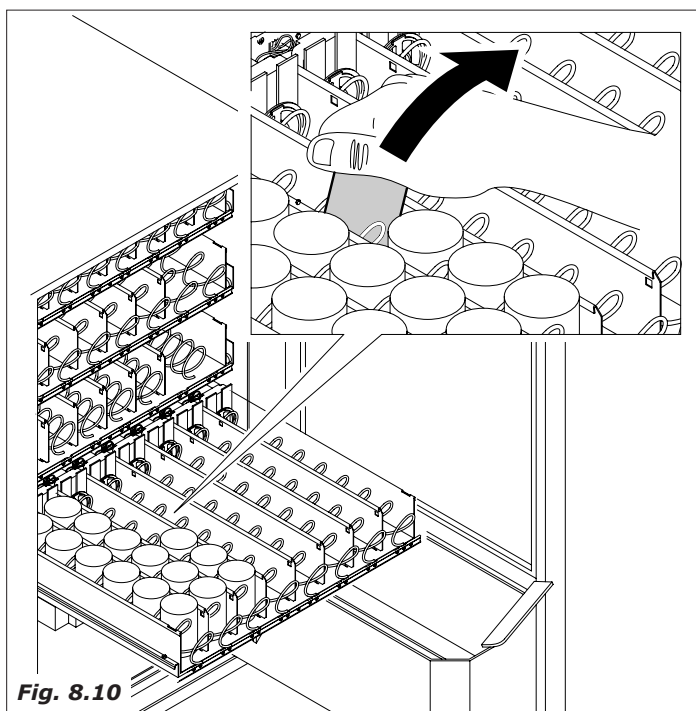

Fig. 8.10
- unload all the products from the trays (Fig.8.10)